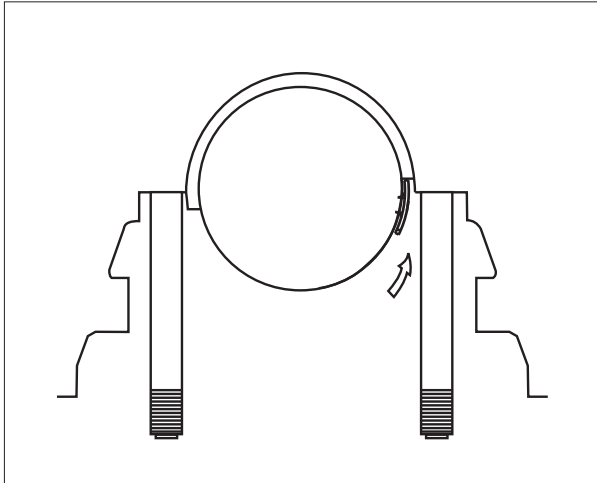

Fig 4. Dismounting of Upper Shell.
- 12) The upper bearing shell is dismantled by means of special tool *see fig 4*.